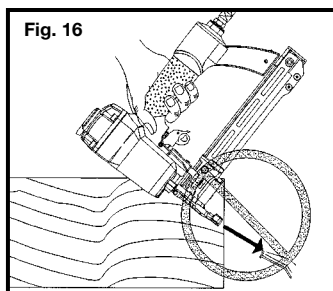

Fig. 16
26. Do not drive fasteners close to the edge of the workpiece. The workpiece is likely to split allowing the fastener to fly free or ricochet causing personal injury. Fig. 16.